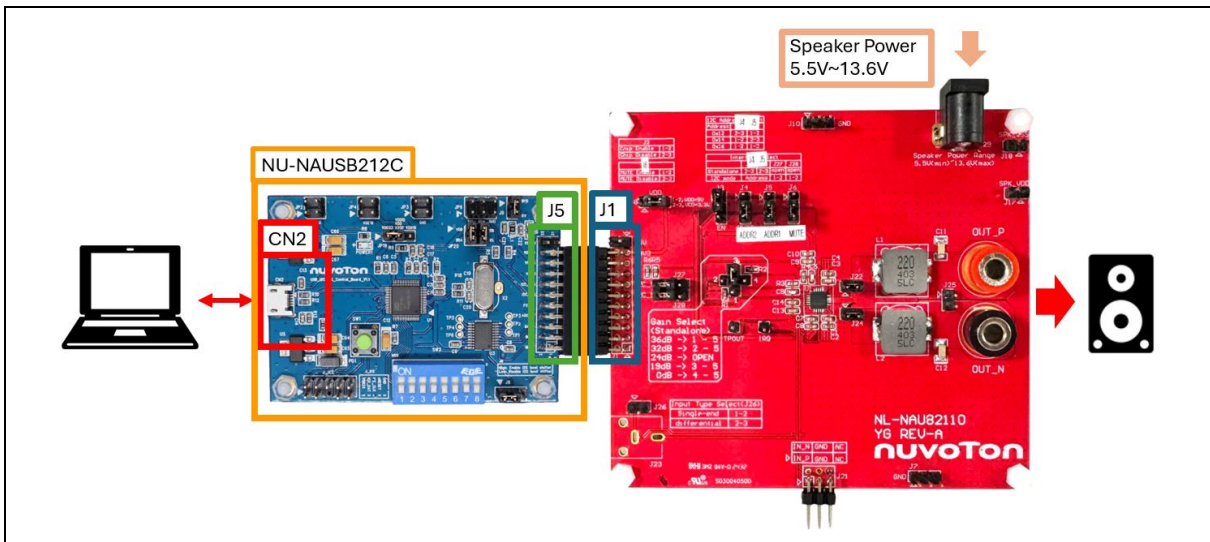

Figure 2-4 NU-NAUSB212C Connection
2. Connect J5 of NU-NAUSB212C to J1 of NL-NAU82110. Figure 2-4 is the diagram after two boards are connected to each other.